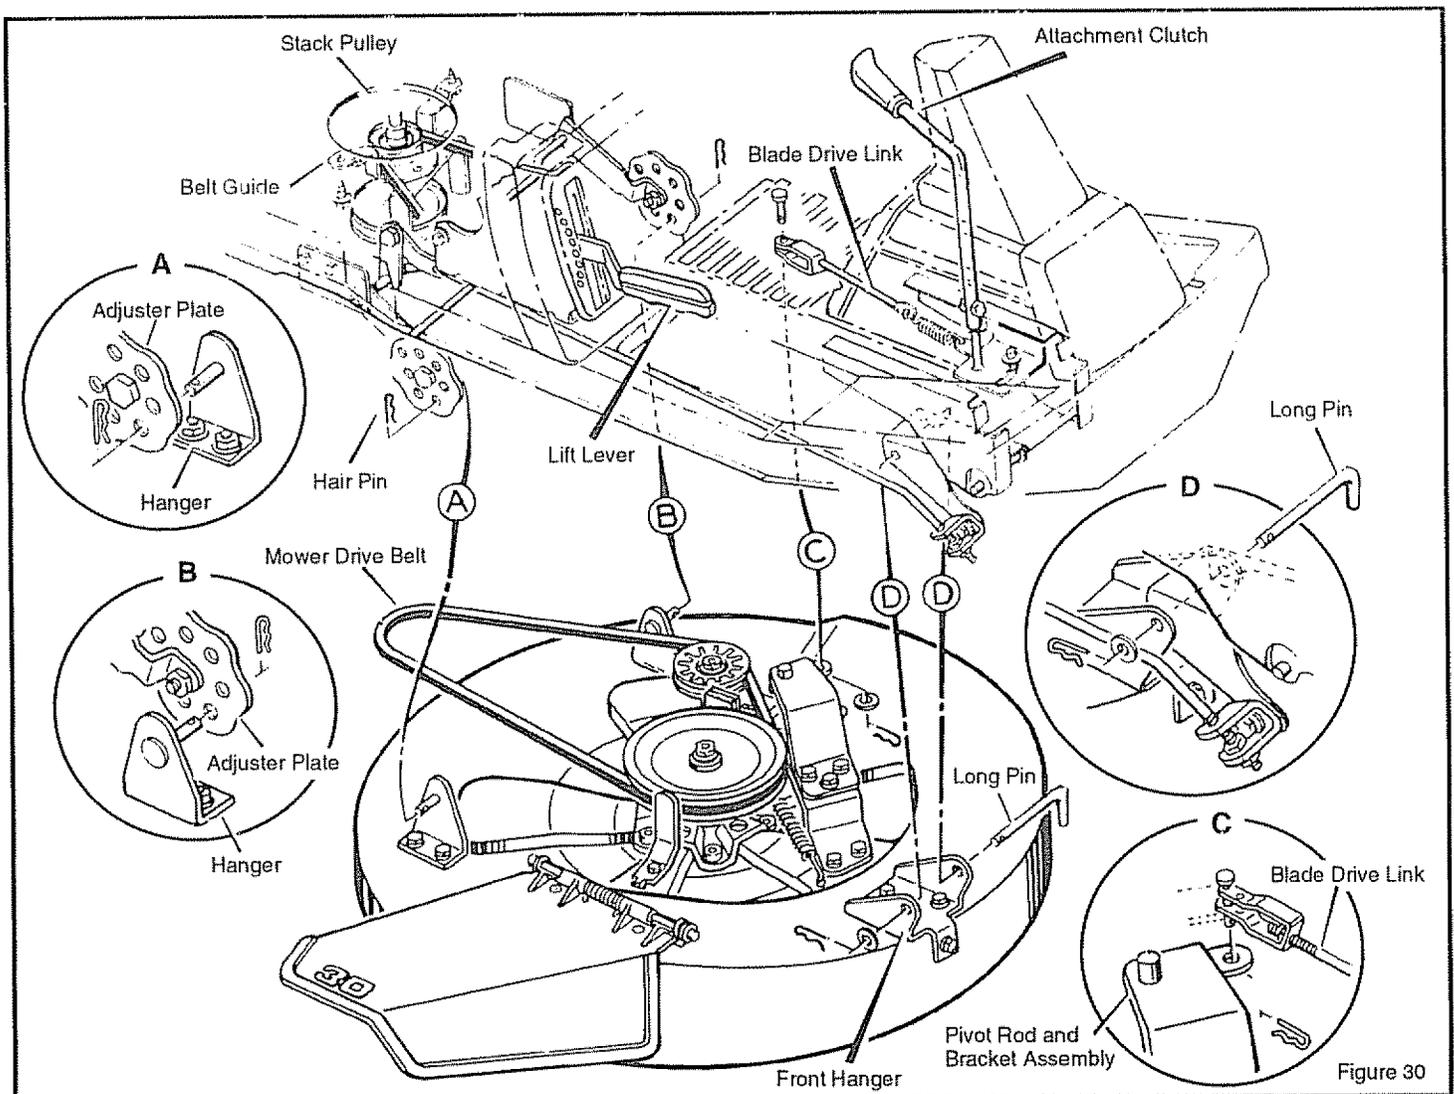

Figure 30
2. Move the **attachment clutch** to the **DISENGAGE** position (Figure 30)